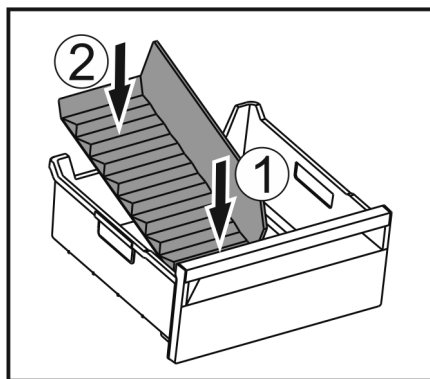

Fig. 156
- Insert the front part of the ice compartment divider. *Fig. 156 (1)*
- Lower the rear part of the ice compartment divider to the drawer bottom. *Fig. 156 (2)*